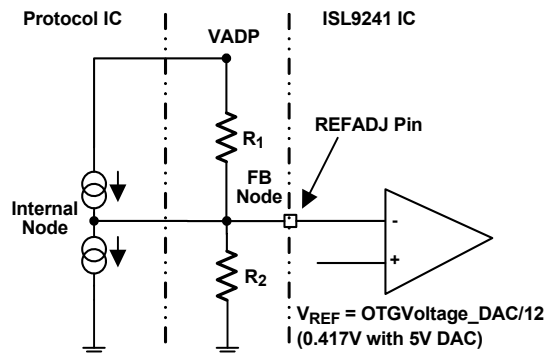

Figure 38. Simplified REFADJ Application
The schematic shown in Figure 38 on page 56 shows how the REFADJ pin is tied to the feedback (FB) node resistor divider node off the VADP node for a quick charge protocol IC. This schematic sets up the FB node to use the reference voltage of 0.417V from ISL9241, but the output on the VADP node can be set up to any voltage over the standard operating range using the R_1/R_2 ratio.